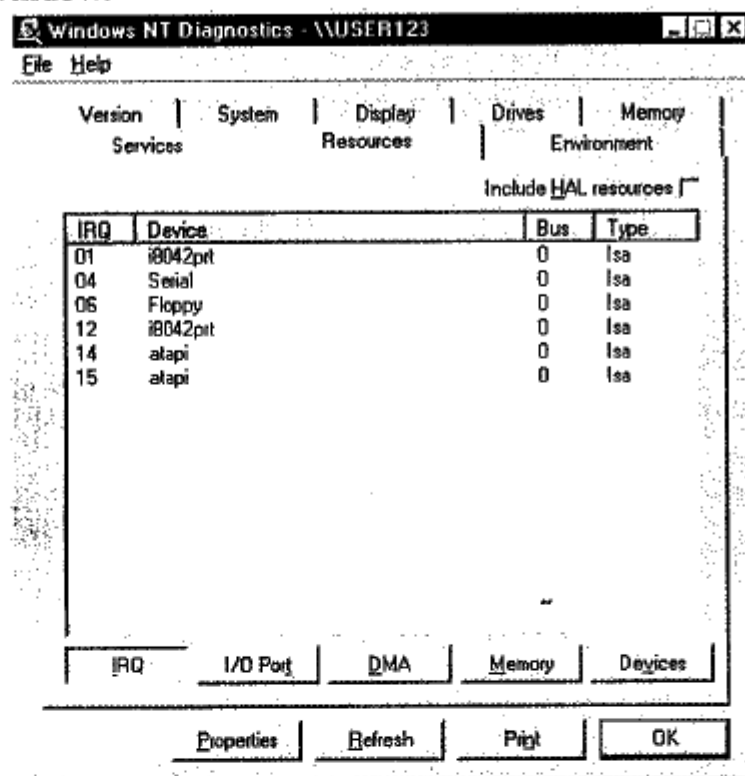

Figure 3-19
- 4-2 Click the "Resources" tab as shown in Figure 3-19. Write down an IRQ not listed in the window.